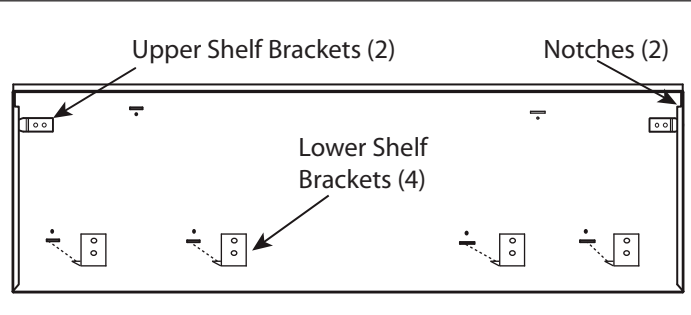

Figure 24: 48" Back of Wall Plate
2. Mount the (2) upper shelf brackets and the (3) lower shelf brackets on the 30" & 36" models or (4) lower shelf brackets for the 48" model at the locations outlined on the templates. Secure with (10) 1" (25.4 mm) screws provided.
5. Install the wall plate by setting the corner notches (back of wall plate) atop the (2) upper shelf brackets.
6. Slide the shelf upwards until the bottom engages with the lower shelf brackets (*Figure 24*).